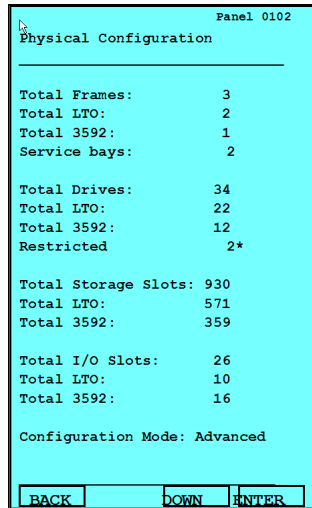

Figure 2-41 IBM TS3500 Configuration display
5. Click **ENTER** twice. The library displays the message: Searching for installed devices and might take several minutes to discover the physical configuration. The Physical Configuration panel displays, identifying the library's existing physical configuration (Figure 2-41). The panel shows the total quantity of drives, storage slots, and I/O slots in the library's physical configuration. If the configuration includes both LTO and 3592 drives, the list shows them separately.